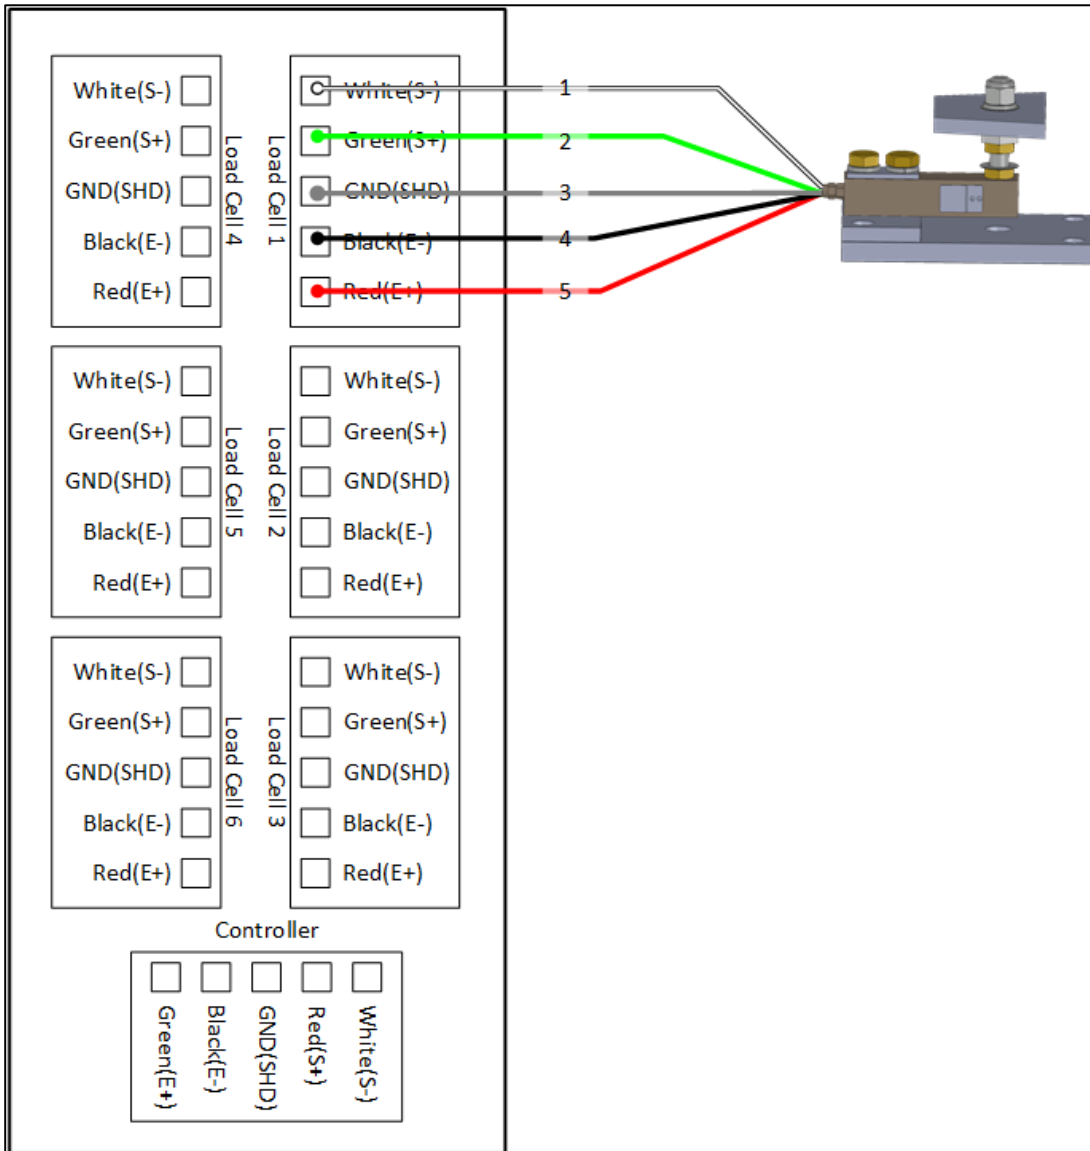

Figure 4: RJB - RSLC Wiring
5. Wire the RJB-6 units to the RSLC units. Each RSLC (load cell) has four-wire shielded cables plus a shield cable(ground). Connect each load cell to the RJB-6 according to the colors inscribed on the RJB PCB board (Figure 4).